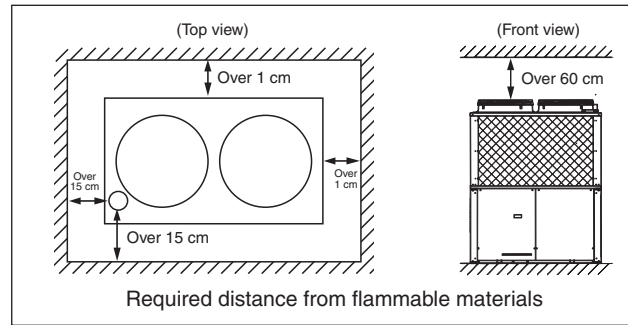

Fig. 2
- Leave the distances shown in Fig. 2 between the outdoor unit and any flammable materials. There is danger of fire if these distances are insufficient.